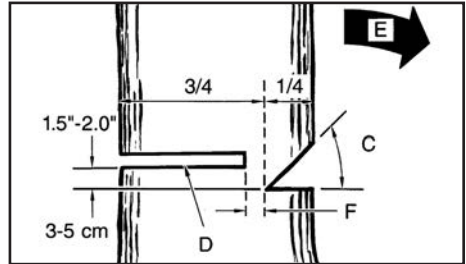

Fig. 16
Normally felling consists of 2 main cutting operations, notching (Fig.16-C) and making the felling cut (Fig.16-D).
Start making the upper notch cut (Fig.16-C) on the side of the tree facing the felling direction (Fig.16-E).
The notch (Fig.16-C) should be deep enough to create a hinge (Fig.16-F) of sufficient width and strength. The notch should be wide enough to direct the fall of the tree for as long as possible.
**WARNING:** Never saw completely through the trunk. Always leave a hinge (Fig.16-F). The hinge guides the tree. If the trunk is completely cut through, control over the felling direction is lost. Insert a wedge or felling lever in the cut well before the tree becomes unstable and starts to move. This will prevent the bar from binding in the felling cut if you have misjudged the falling direction. Make sure no bystanders have entered the range of the falling tree before you push it over.